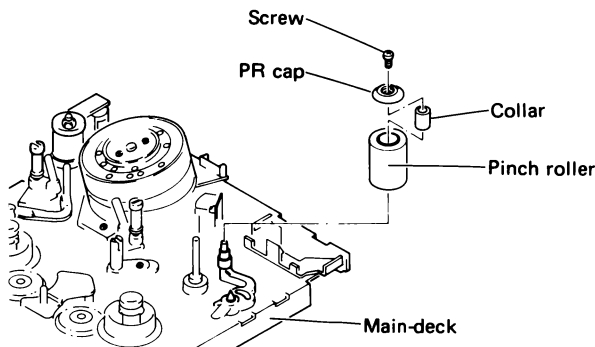

Fig. 2-9 Pinch roller replacement
2.3.4 Pinch Roller (See Figure 2-9.)